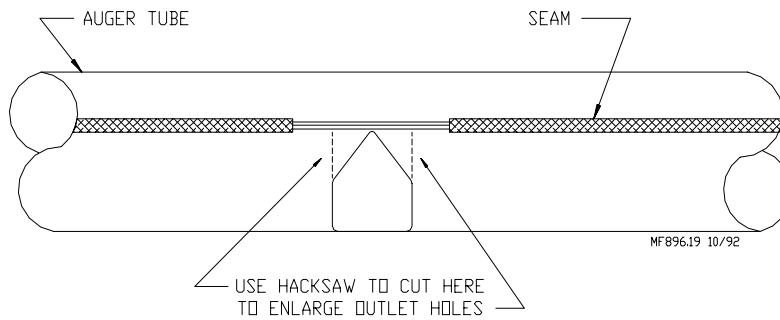

Figure 29. (Side View)
1. Enlarge the outlet hole where the control is to be installed on the tube. This will ensure total feed dropout to the Intermediate Control. See **Figure 29** for recommended size and placement. Use hacksaw and tin snips to enlarge hole size. Be sure there are no burrs